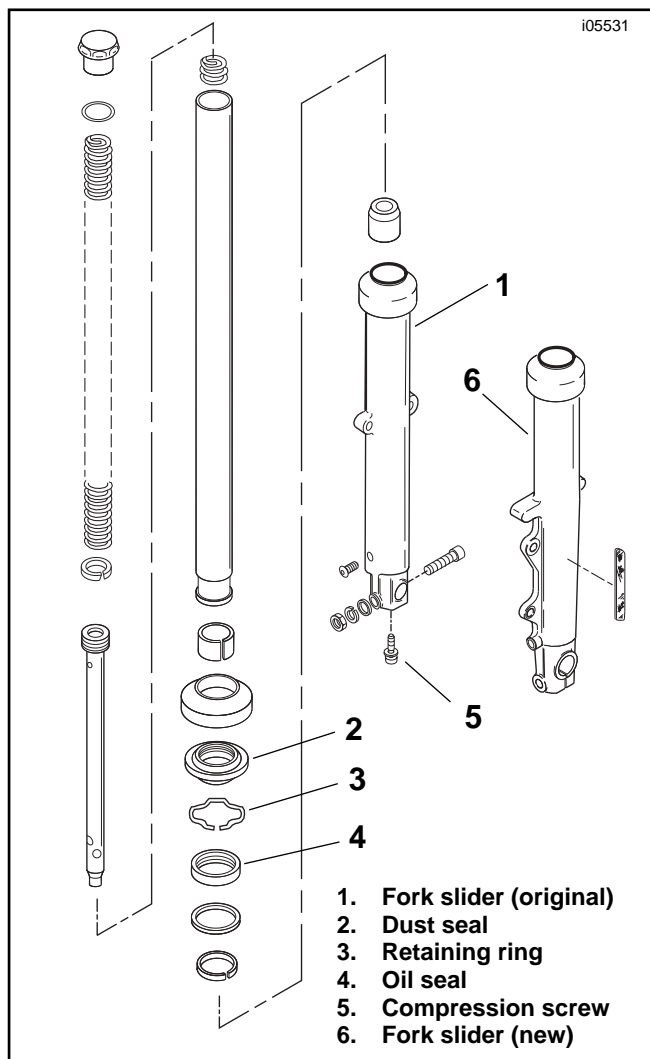

Figure 2. Right-Side Front Fork Slider-and-Tube Assembly
2. See Figure 2. Disassemble the slider (1) from the right-side front fork slider-and-tube assembly according to FRONT FORK, DISASSEMBLY instructions in the Service Manual. Discard the slider, compression screw (5), fork seal (4), dust seal (2) and retaining ring (3); save all other components and fasteners for re-installation.
1. See Figure 2 and the FRONT FORK, ASSEMBLY instructions in the Service Manual. Assemble the new right-side fork slider (6) to the original front fork right tube assembly using the new fork seal (4), dust seal (2) and retaining ring (3) from the kit.